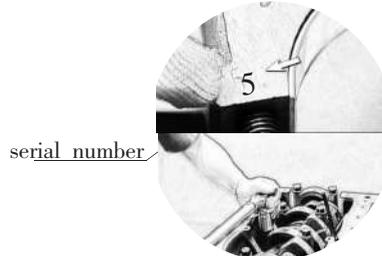

Fig 5-5 Main Bearing Cover Installation
1.5 Pay attention to sequence number on main bearing cover before installation, arrow mark is toward front end of crankshaft, not let them in disorder. Tighten main bearing bolts starting from middle to each ends across two times, tighten torque is 205 Nm (see Fig 5-5).